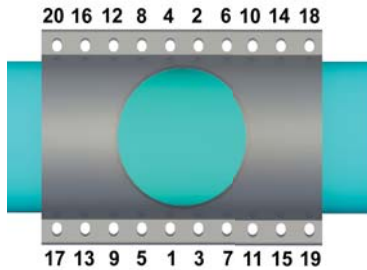

Figure 4
10) Once the nuts are hand tight, tighten the outside nuts first and work toward the center using a torque wrench (see Figure 4). Tighten nuts evenly and alternate from one side of the valve to the other. The gaps between the top and bottom sleeves are to be equal on both sides (within 1/8"). Nuts are to be torqued to the values provided below. Be sure to follow this tightening procedure to properly load the gasket.